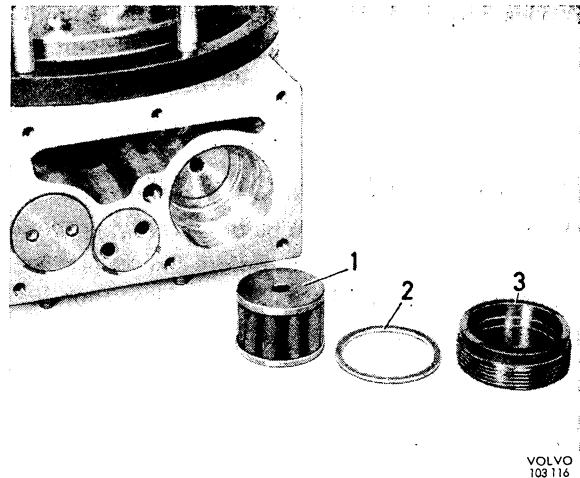

Fig. 4-39. Fine filter
2. Remove the plug and take out the seal and fine filter, see Fig. 4-39.